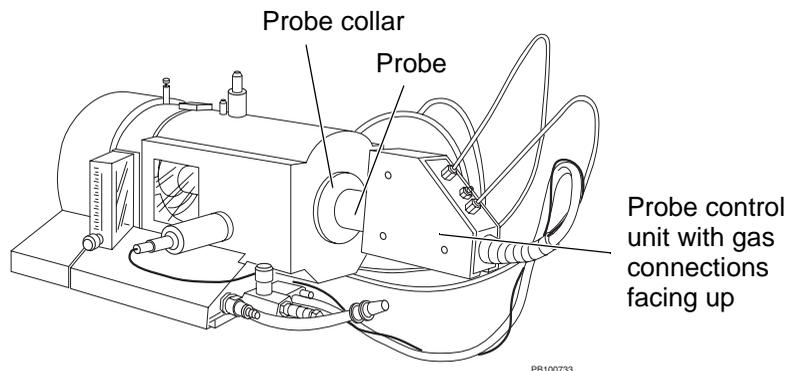

Figure 2-3 Installing the Heated Nebulizer Probe
3. Hold the APCI spray chamber with two hands, one under the base, one on the probe collar (Figure 2-2 and Figure 2-3).
7. Position the heated nebulizer probe control unit with gas connections facing up (Figure 2-3).